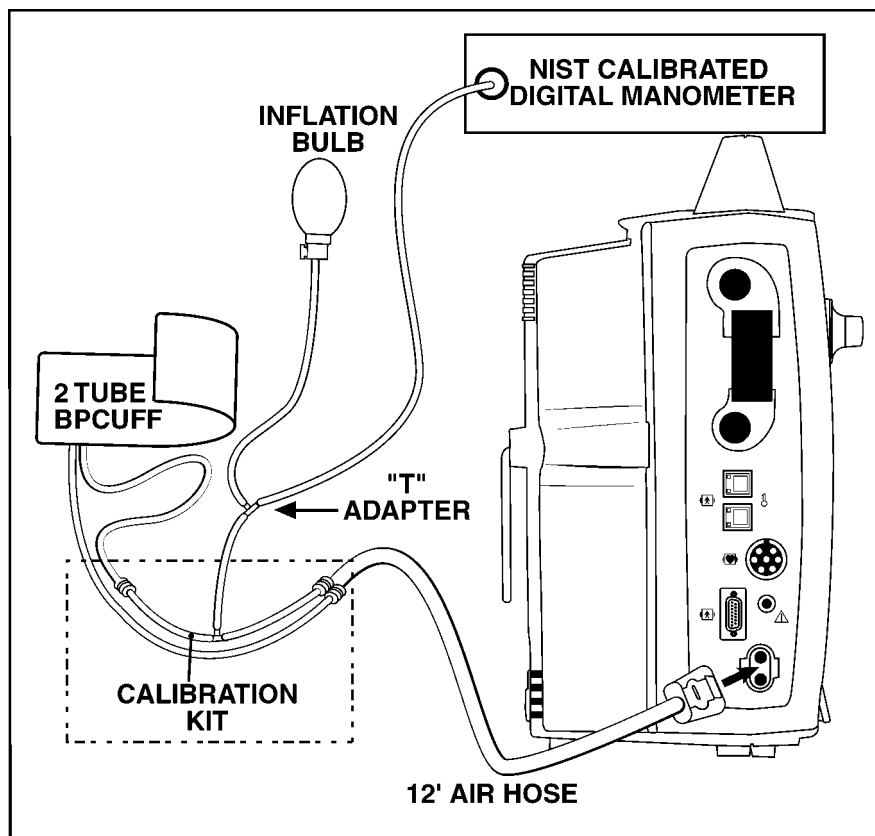

Figure 4-1. NIBP Test Setup
1. Using the calibration kit (part number 320-246), an adult cuff and air hose, and a manometer, set up the equipment as shown in Figure 4-1. Connect the hose to the NIBP Parameter. Make sure all fittings are tight, and that the inflation bulb valve is closed tightly.
1. Using the calibration kit (part number 320-246), an adult cuff and air hose, and a manometer, set up the equipment as shown in Figure 4-1. Connect the hose to the NIBP Parameter. Make sure all fittings are tight, and that valve on inflation bulb is closed tightly.